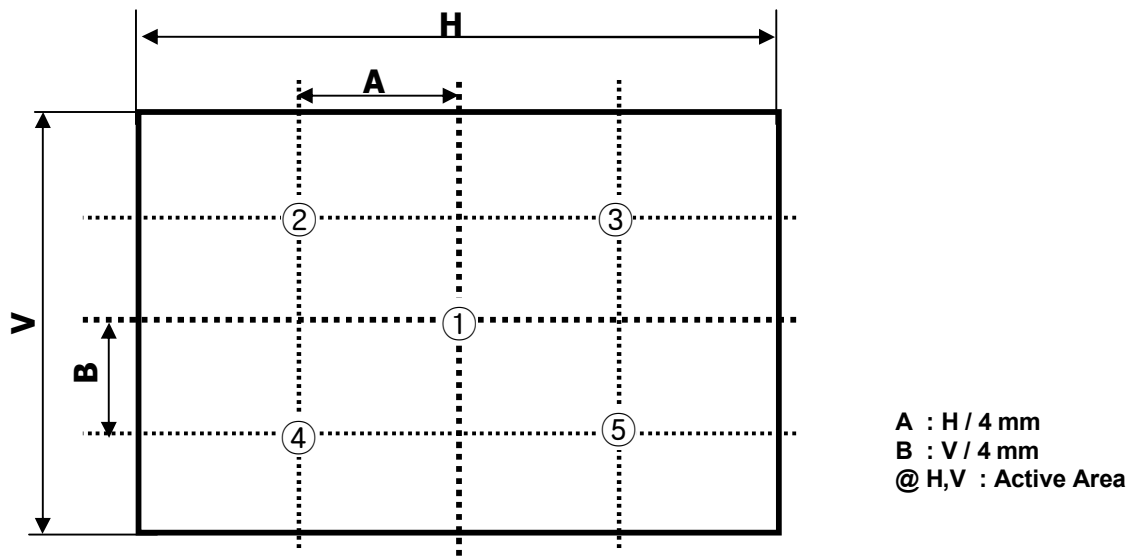

FIG. 2 5 Points for Luminance Measure
2. Surface luminance is determined after the unit has been ON and 1Hour after lighting the backlight in a dark environment at $25 \pm 2^\circ\text{C}$. Surface luminance is the luminance value at center 1-point across the LCD surface 50cm from the surface with all pixels displaying white. For more information see the FIG. 2.
For more information, see the FIG. 2.